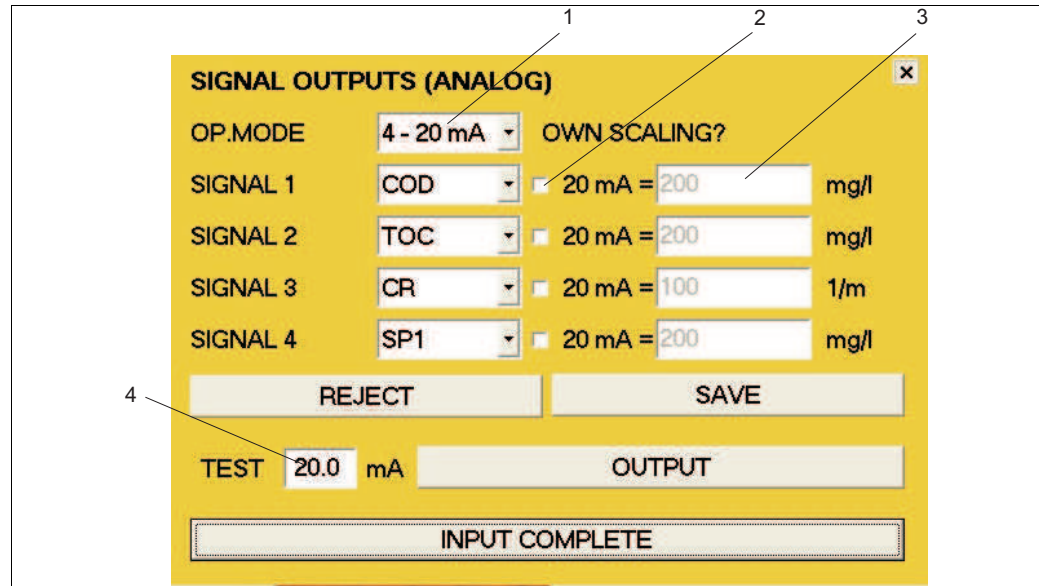

Fig. 48: ANALOG OUTPUTS window
1. In the OP.MODE selection field (pos. 1, Fig. 48), select the desired current range.
3. If you wish to scale an analog output, activate the corresponding output (pos. 2, Fig. 48).
4. In the entry field (pos. 3, Fig. 48), enter the desired maximum value for the corresponding output.
4. In the **TEST** entry field (pos. 4, Fig. 48), enter a current value (max. 20 mA).